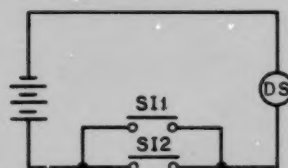

Figure 7-20.—OR circuit. 84.402
The electric circuit shown in figure 7-20 represents an OR circuit. This circuit qualifies as an OR circuit because the light will glow (ON) if either switch SI1 or switch SI2 is closed (ON), and the light is out (OFF) only if both switches are open (OFF). Figure 7-20 is a basic parallel circuit.